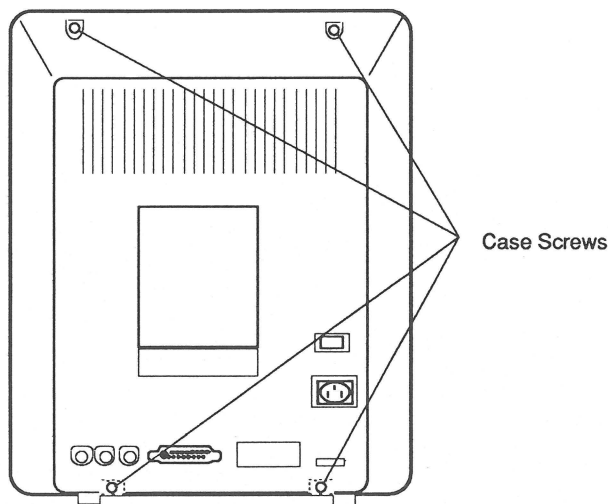

FIGURE 1
3. Remove the four case screws (**Figure 1**) from the rear cover.
2. Slide the rear cover onto the bezel, and replace the four case screws (**Figure 1**).